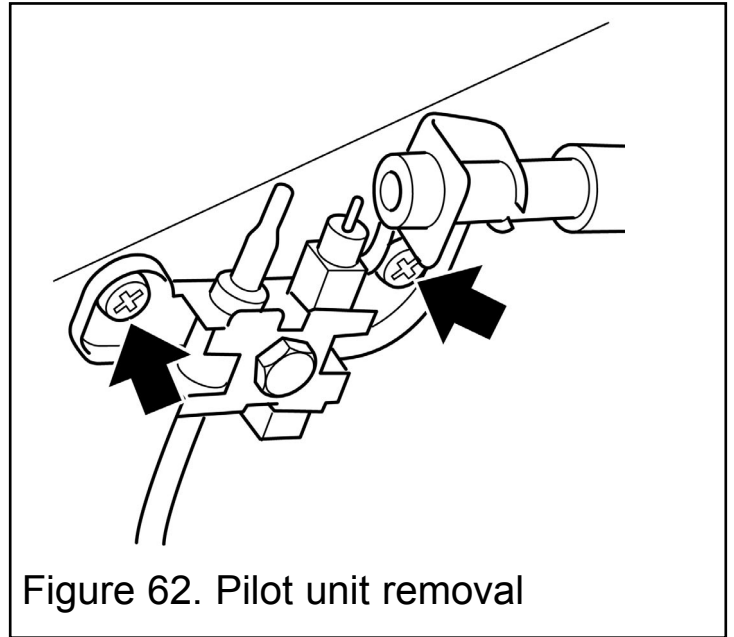

Figure 62. Pilot unit removal
6. Remove the two screws securing the pilot unit. See figure 62.